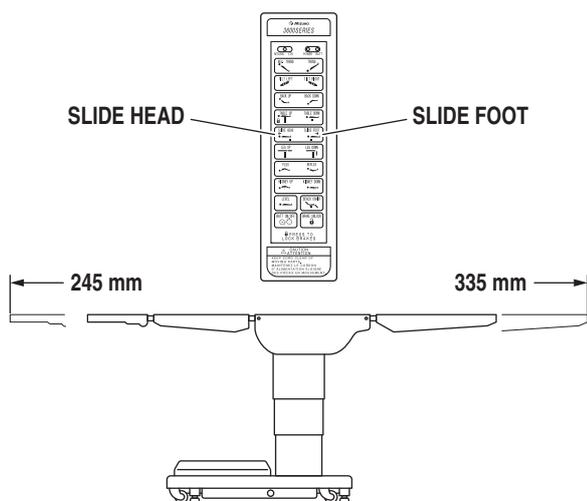

Figure 2-11. Top Slide
f. Top Slide To move the table top toward the head end, press the SLIDE HEAD button. From center position, the top will slide up to 245 mm. See figure 2-11.